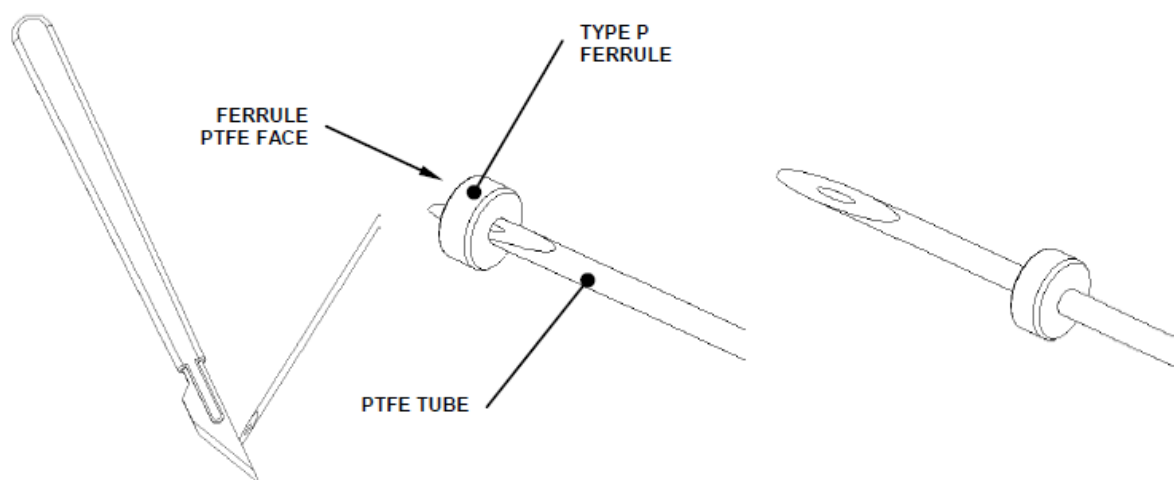

Figure O-8: Preparing the Tubing
1. Cut a 300mm length of PTFE Tubing. With a scalpel, cut the tubing to form a point approximately 10 to 15mm long (Figure O-8). Thread the cut (pointed) end of the tube through a Type P Ferrule (ensuring that the Ferrule is orientated as shown with the PTFE face pointing up the tube). With a pair of pliers, grip the pointed end of the tube, and pull the tube through the Ferrule until it has reached an uncut section of the tube (approximately 30 to 40mm from the start of the angled cut).